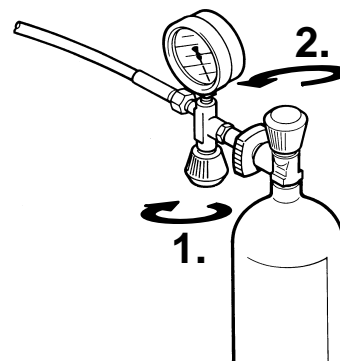

Fig. 11 Filling air bottle
2. Open filling valve first, then bottle valve. See Fig. 11.